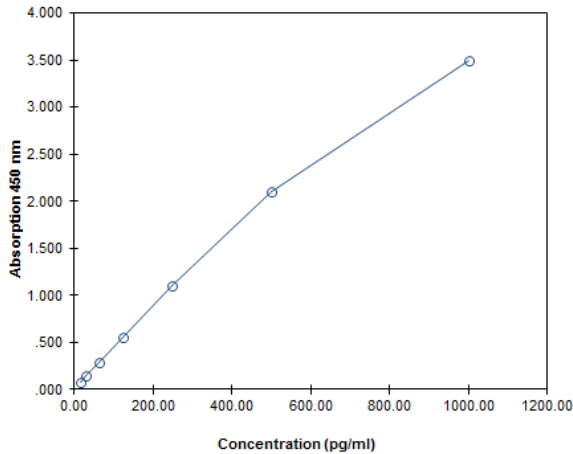

Fig. 8 Representative standard curve for human IL-15 ELISA. human IL-15 was diluted in serial 2-fold steps in Calibrator Diluent.
- A representative standard curve is shown in Figure 8.